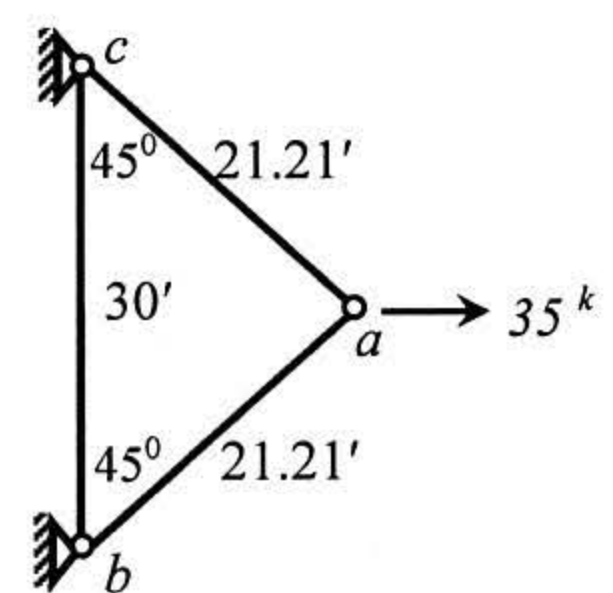

Fig.5
- a. For the plane truss *abc* loaded as shown in *Fig.5*, calculate (i) horizontal and vertical deflection at joint *a* and (ii) Axial force in all members. [Given: $S_x = \text{constant} = 1000 \text{ k/ft}$] [7 marks]
- b. For the plane truss *abc* shown in *Fig.5*, calculate its natural frequencies (neglecting zero-force members) using consistent mass matrices [Given: $S_x = \text{constant} = 1000 \text{ k/ft}$, mass per length $\mu = 0.0045 \text{ k-sec}^2/\text{ft}^2$]. [7 marks]